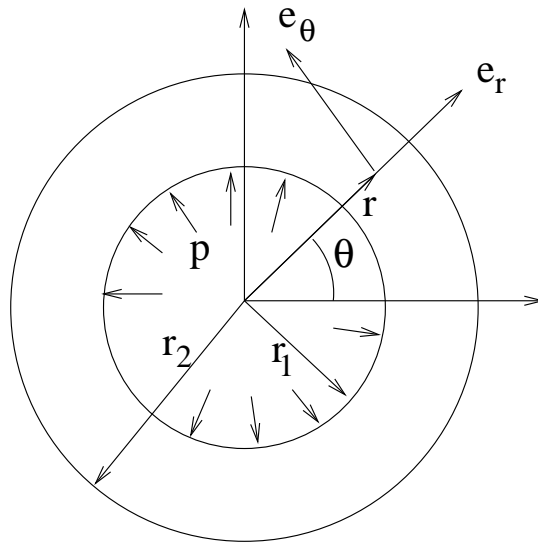

Figure 1:
2. A thick-walled circular cylinder is subjected to pressure loading on the surface  $r = r_1$  as shown in Fig. 1. Assuming  $u_r = u_r(r)$ , and  $u_\theta = u_z = 0$ , the governing equation is (40)